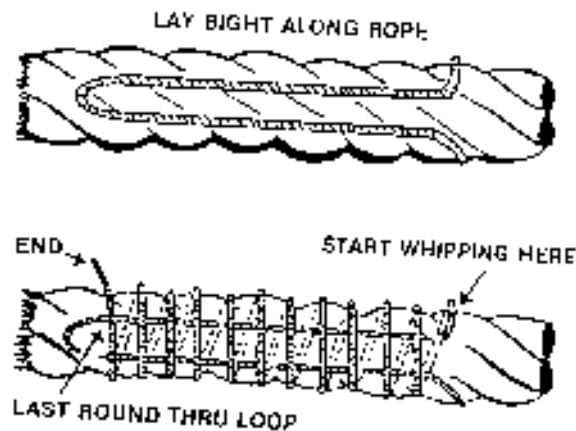

Figure 2-16. End of Rope Whipping
(1) A new rope will be physically inspected for any signs of damage or defects. After passing inspection, both ends of the rappel line should be whipped and burnt (Figure 2-16). The free end of the fast rope should be whipped, but not burnt. The unit must store and maintain all HRST ropes in a clean, well-ventilated, dry area in accordance with current directives.